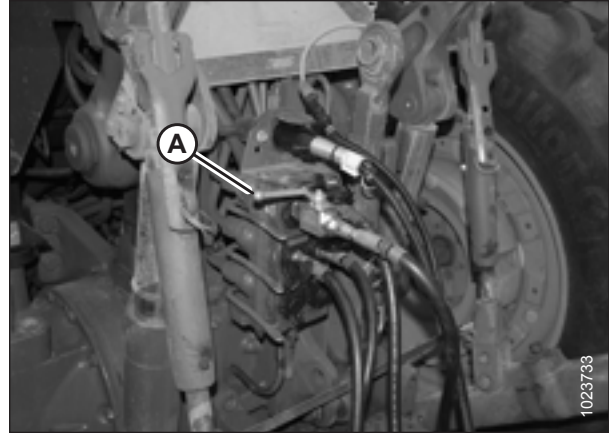
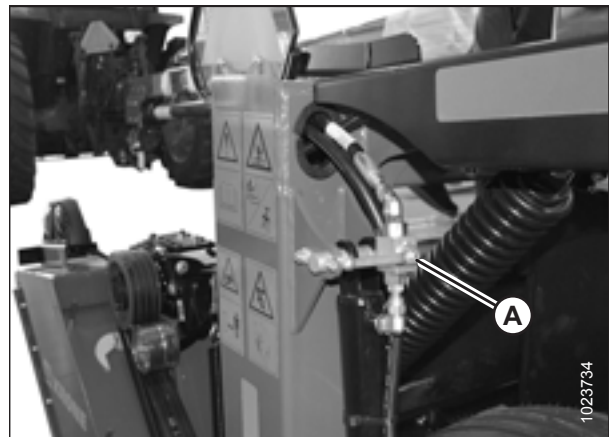

Figure 5.13: Steering Lock-Out Valve
Figure 5.14: Lift Cylinder Lock-Out Valve
10. Close the steering lock-out valve and the two lift cylinder lock-out valves by turning the handles to the closed position. For instructions, refer to Figure 5.13, page 54 and Figure 5.14, page 54.